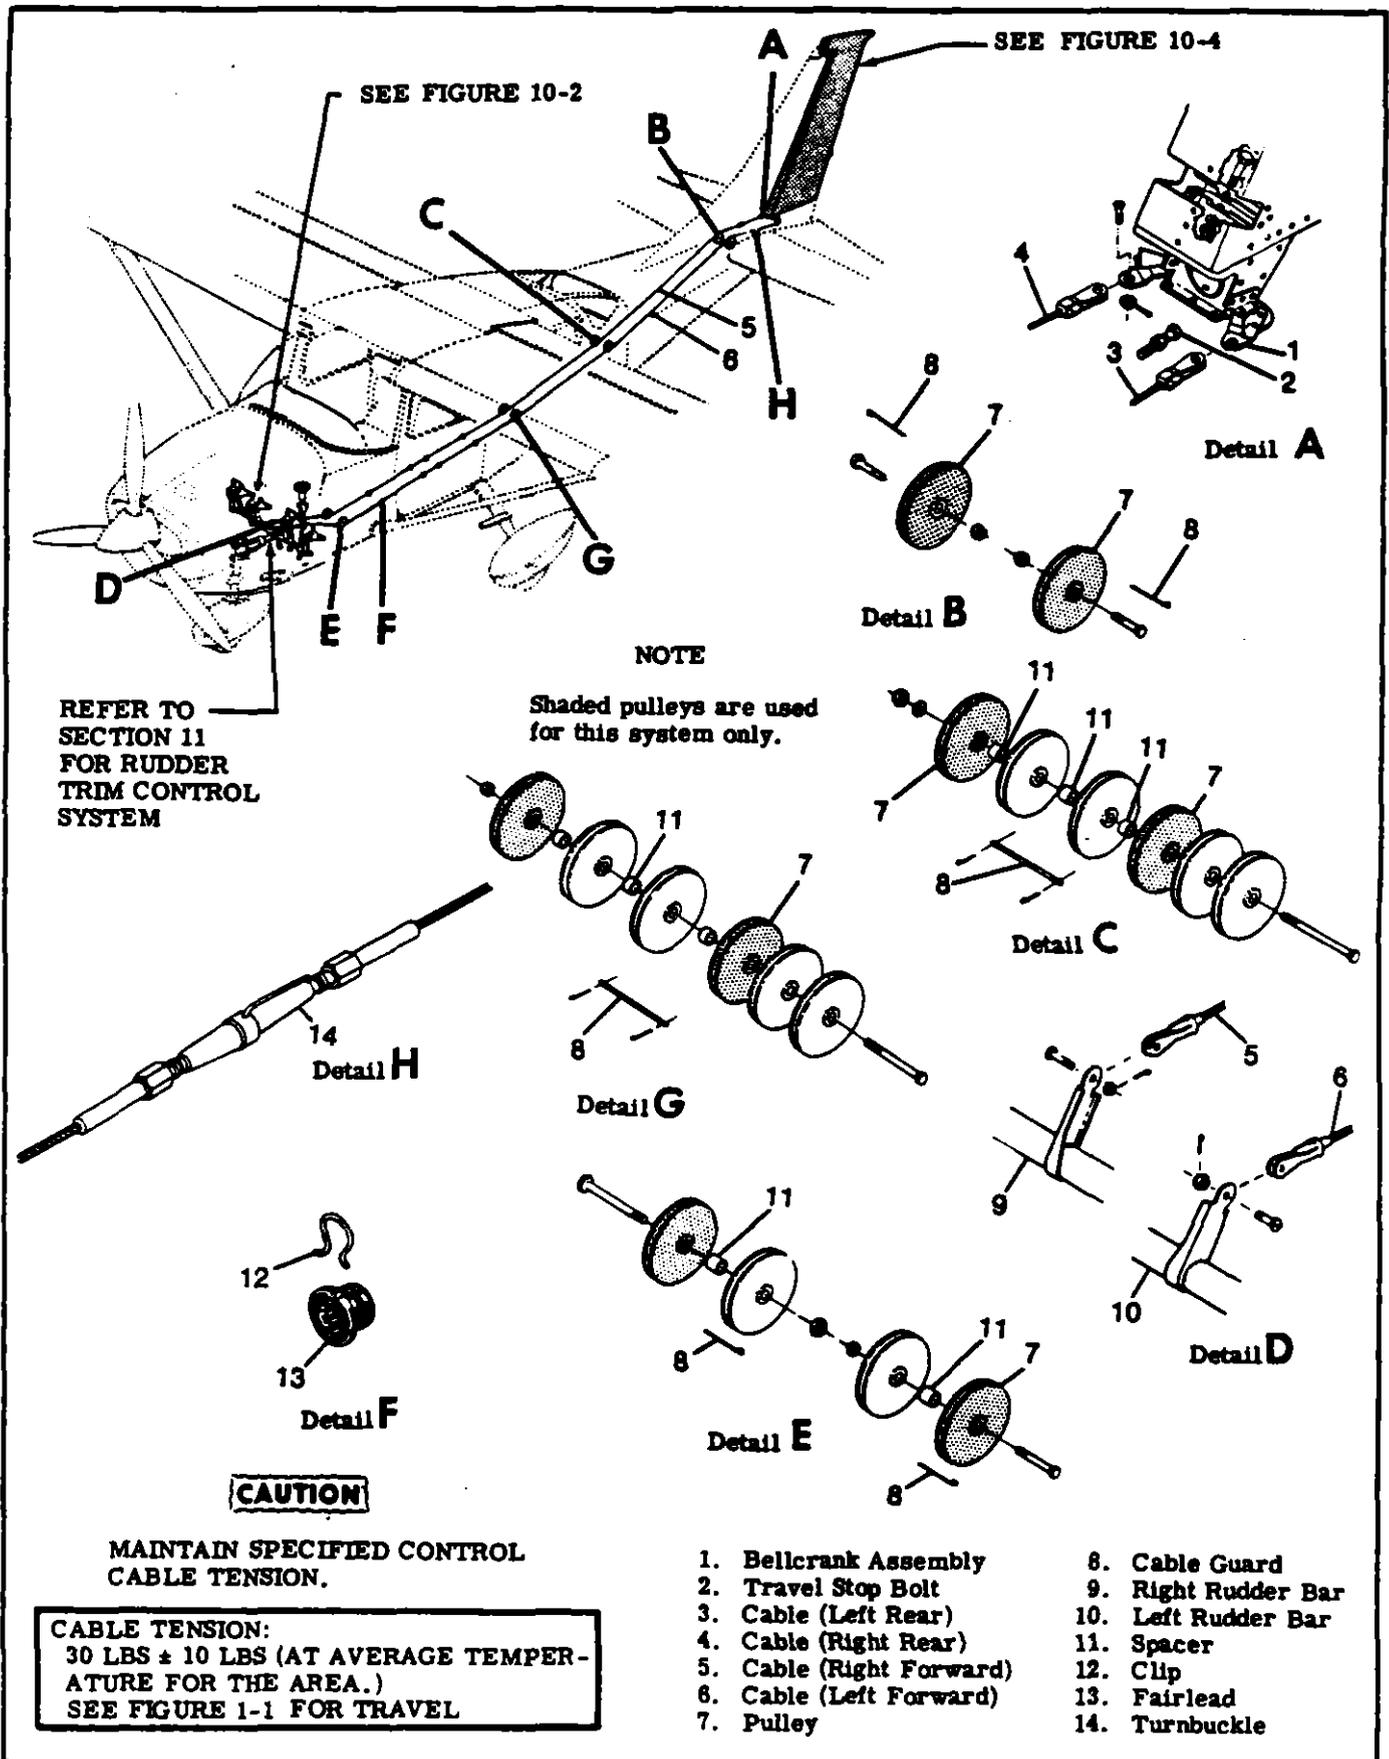

Figure 10-1. Rudder Control System
10-1. RUDDER CONTROL SYSTEM. (See figure 10-1.)
- b. Disconnect brake master cylinders (18) and parking brake cables at pilot's rudder pedals.
- c. Remove rudder pedals (2) and brake links (5).
- d. Disconnect stowable rudder pedal controls (10).
- e. Remove fairing from either side of vertical fin, remove safety wire and relieve cable tension by loosening turnbuckles (index 14, figure 10-1).
- g. Disconnect steering bungee (Refer to Section 11) from rudder bar arm (16). The bungee serves for both rudder trim and nosewheel steering.
- h. Disconnect whiffletree push-pull rods at arms (15).
- i. Remove bolts securing bearing blocks (11) and carefully work rudder bars out of tunnel area.
- c. Remove fairing from either side of vertical fin, remove safety wire and relieve cable tension by loosening turnbuckles (index 14, figure 10-1.)
- d. Disconnect cables (4 and 6) from rudder bell-crank (3).
- e. With rudder supported, remove all hinge bolts (2) and using care, lift rudder free of vertical fin.
10-9. CABLES AND PULLEYS. (See figure 10-1.)
- a. Remove fairing from either side of vertical fin, remove safety wire and relieve cable tension at turnbuckles (index 14, figure 10-1).
- f. Adjust turnbuckles (index 14, figure 10-1) to streamline rudder with 30 ± 10 lbs tension on cables.
- h. Adjust travel stop bolts (index 2, figure 10-1) to obtain degree of travel specified in figure 1-1. Figure 10-4 illustrates correct travel and one method of checking.